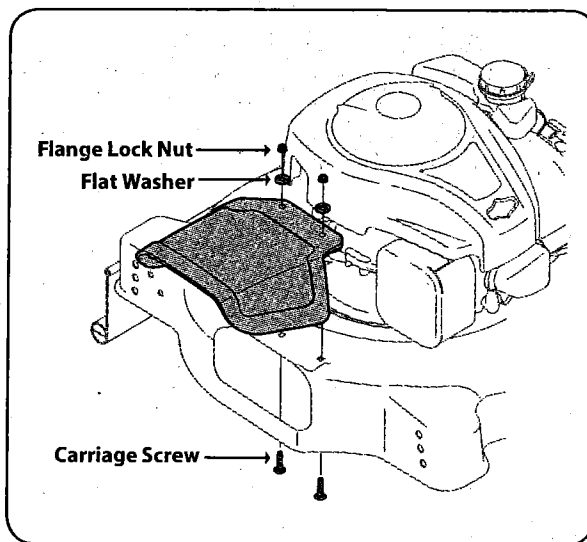

Figure 3-1
2. Insert carriage screws up through the underside of the deck and through the chute deflector. See Figure 3-1.